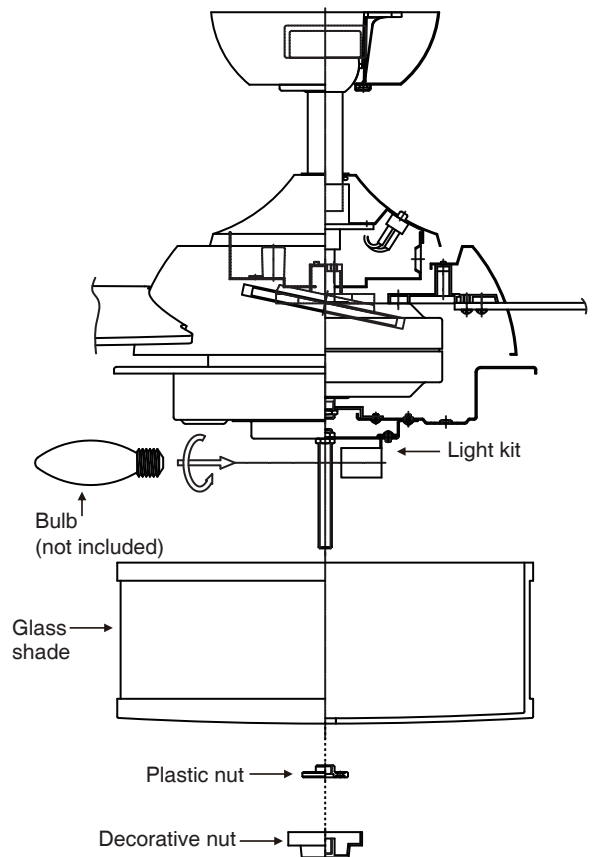

Fig. 14
4. Install three 40 W E12 bulbs (not included). (Fig. 14)
6. Raise the glass shade up against the light kit, place the plastic nut over the light kit and turn it clockwise until it locks up against the light kit. Do not over-tighten. Secure the decorative nut provided. (Fig. 14)